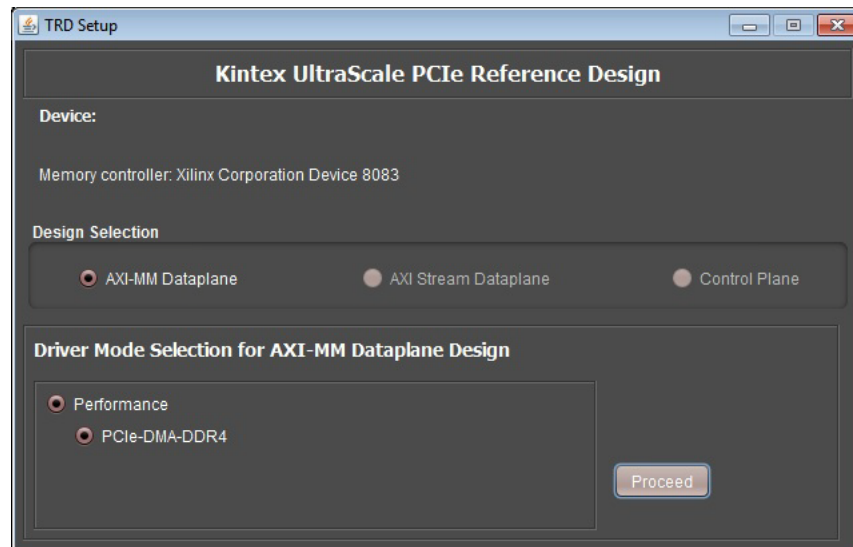

Figure 3-13: TRD Setup Screen on Windows
- Figure 3-13 shows the TRD Setup GUI. Click **Proceed** to test the reference design. This step takes you to the Control and Monitoring GUI as shown in Figure 3-14, page 29.